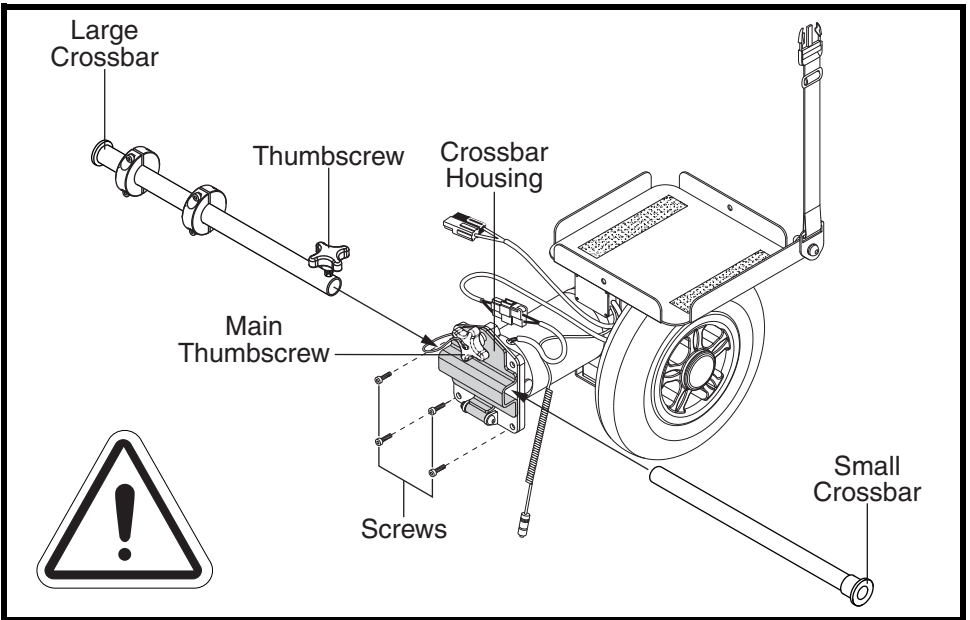

Figure 3. Crossbar Installation (One-wheel Model Shown)
3. Insert the large crossbar into the crossbar housing as shown in **figure 3**, and then lock it and the gearbox together with the four (4) supplied screws.
4. Insert the small crossbar into the large crossbar and adjust the length so that the combined crossbars securely fit into both mounting brackets. **See figure 3.**
6. Secure the combined crossbars with the thumbscrew. **See figure 3.**